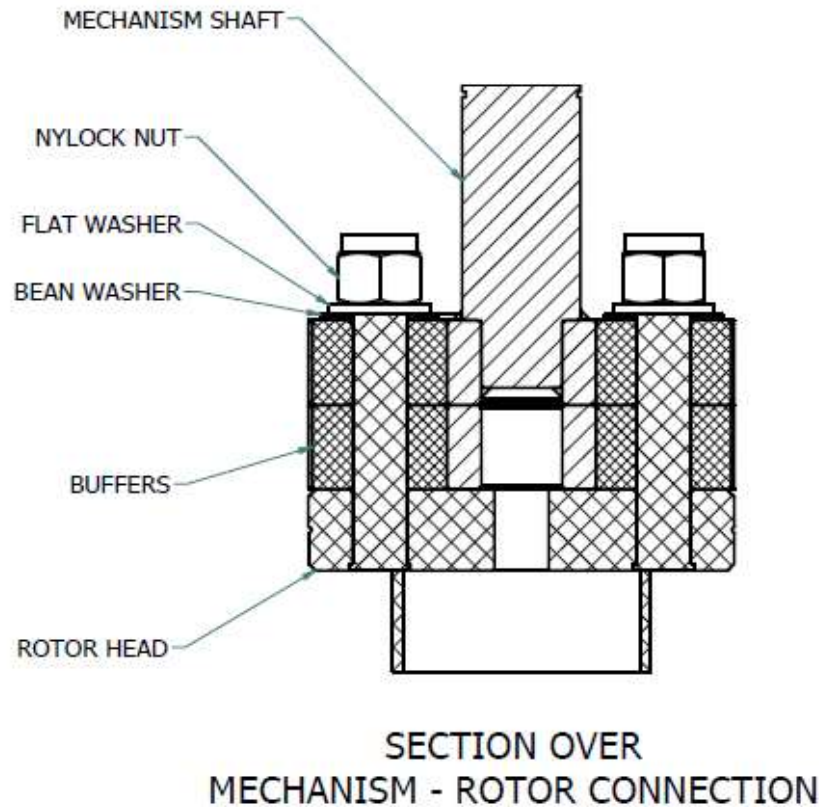

Figure 15: Top spider assembly to mechanism shaft
- 5.19. Place the top spider, with the buffers, bean washers, flat washers and M16 nylock nuts on the bottom disk of the mechanism. See *Figure 14* and *Figure 15*.